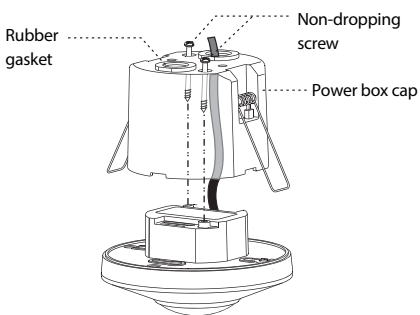

FIG.10
4.2.2.2. Use a screwdriver to break the rubber gasket on power box cap, then feed cables through it (See FIG. 10).